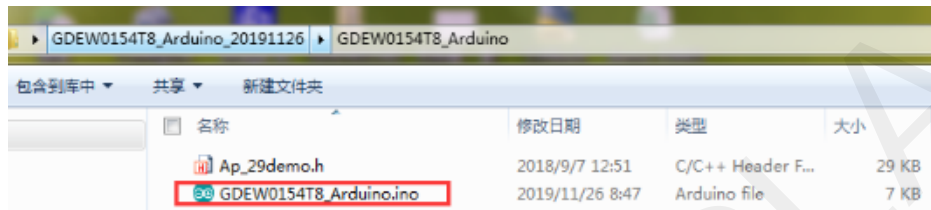

Figure 6 : Open Arduino.ino
- 3) Open the Arduino.ino file in the folder shown in Figure 6 with Arduino 1.8.6.
- 5) Select development board model “Arduino/Genuino Uno” in position 1 of Figure 6.
- 7) Select programmer model “AVRISP MKII” in position 3 of Figure 6.